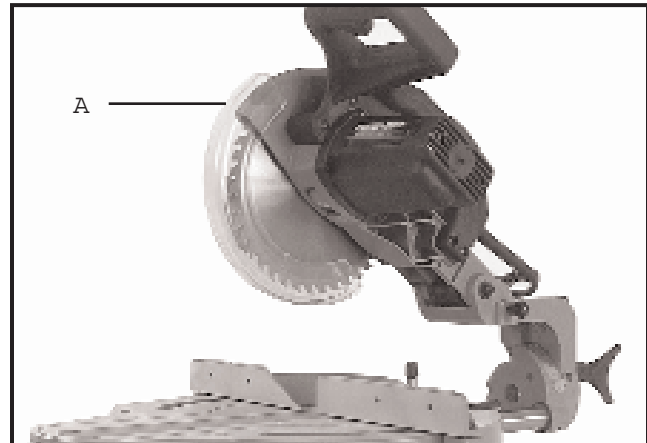

Fig. 9
2. Fig. 9 illustrates the cuttinghead (A) in the raised position.